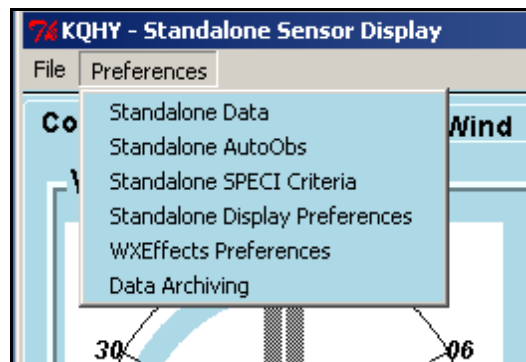

Figure 10. Preferences Menu Selection
- (1) Select Preferences from the top menu bar (see Figure 10).
- (1) Select Preferences from the Standalone Sensor Display menu (see Figure 10).